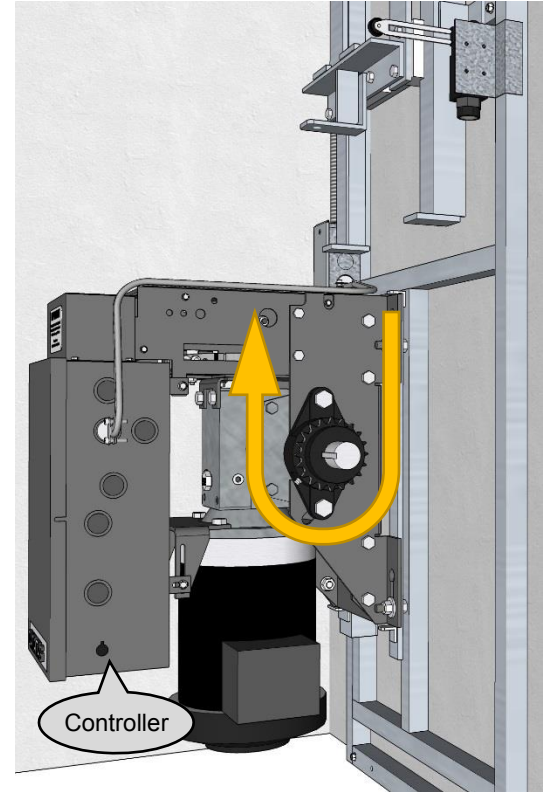

Figure 9
- 3 Watch the rotation of the sprocket when the up contactor is pressed. If the direction of rotation is not the same direction as shown in Figure 9, go on to Step 4. If the direction of rotation is the same as shown in Figure 9, go on to Step 5.